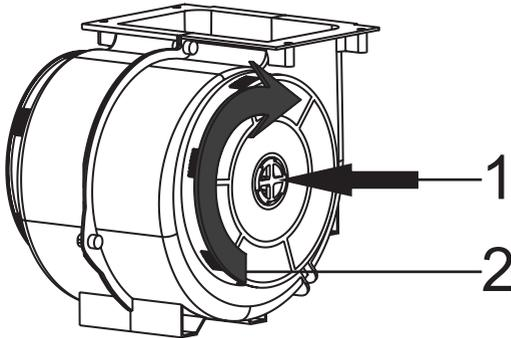

Fig. 6: AF 100 CARBON FILTER
1. Place the carbon filter in its housing. Fig. 6
2. Rotating the carbon filter clockwise, ensure that it is completely fit. Fig. 6